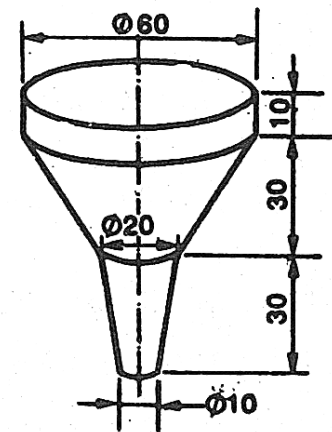

Fig:2
10. Draw the development of a funnel as shown in Fig:2.